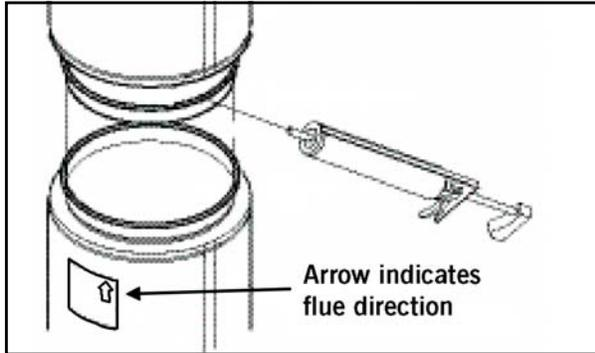

Figure A-1 - Flue Direction
All components have a male and a female end. The installation orientation is indicated on the labeling of each pipe section with an arrow. The arrow indicates the direction of the flue (See Fig. A-1). Clean all inner and outer surfaces of male and female ends with an appropriate organic solvent, such as acetone, MEK, or other commercial degreaser.
1. Before fitting the male and female ends in one another, a sealant is applied on the male end, at the gap between the inner band and the inner pipe (see Fig. A-1 and A-3, Table A-7).
2. After joining the male and female ends, a layer of sealant is applied inside the V-groove of the Assembly Band (AB) prior to its installation over the joint (see Fig. A-1, Table A-7).